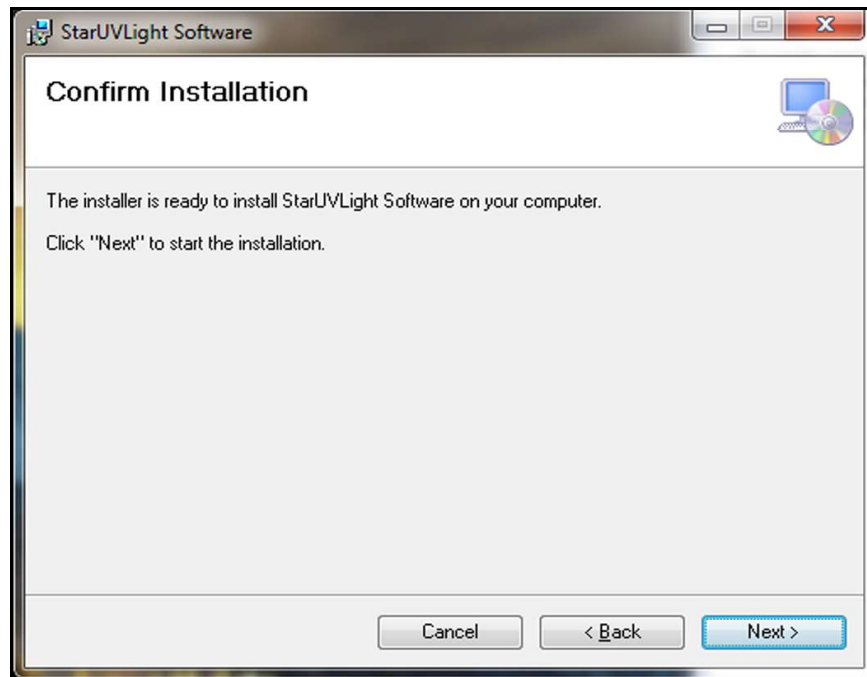

Figure 3-3: Confirm Installation
6. The installation will progress and a "Confirm Installation" window will pop-up (Figure 3-3). Click the "Next >" button.